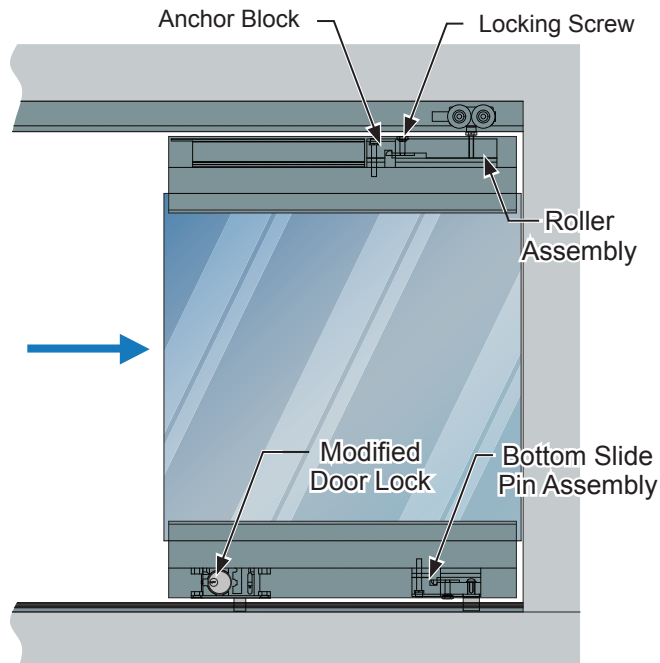

Fig. 15
2. Align the end of the top rail with the roller assembly block. Slide the roller assembly block into the top rail until it contacts with the anchor block. While maintaining contact, tighten the locking screw. **(Fig. 15)**